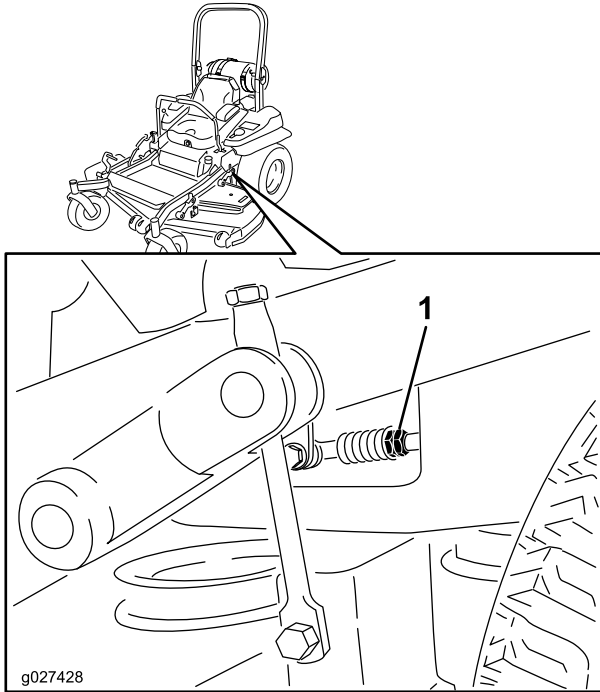

Figure 79
- Adjust the pump control rod lengths by rotating the double nuts on the rod in the appropriate direction until the wheels slightly creep in reverse (Figure 79).